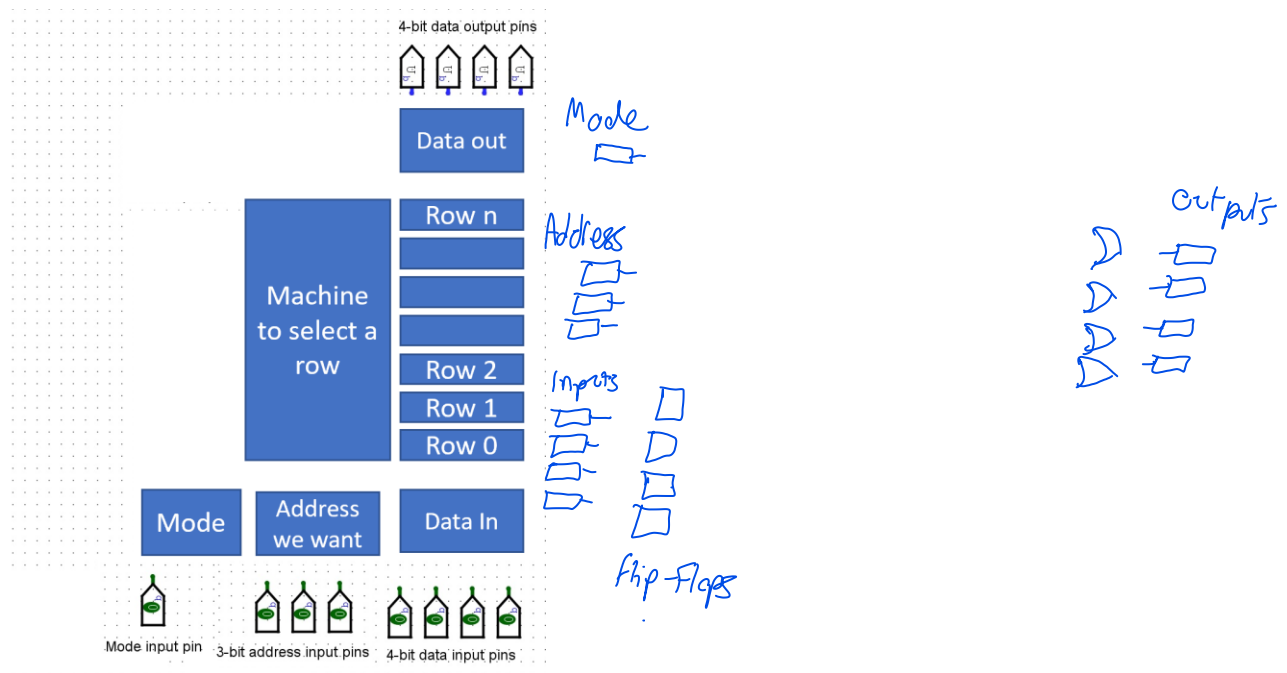

Figure 1: High-level view of RAM
This assignment asks you to use Logisim Evolution to create an 8-nibble RAM. To make this an easier assignment, we are using nibbles (4 bits) instead of bytes (8 bits). Your RAM only has 8 nibbles, this means that your address register only needs to be 3 bits long. To simplify this assignment further, you will implement two data registers, one for reading and the other for writing (see figure 1). Optionally, you can merge these two data registers as in real RAM implementations.
- Task: Build the RAM of figure 1.
NOTE: Your final circuit does not need to look exactly like figure 1. However, the input and output pins must look like figure 1.